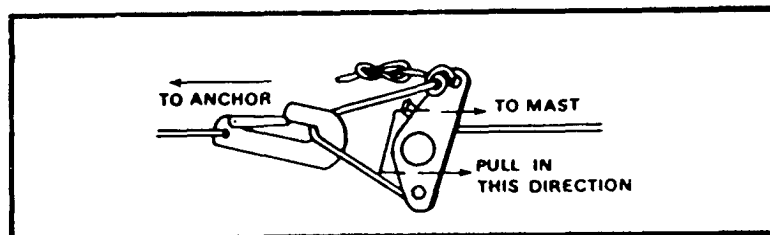
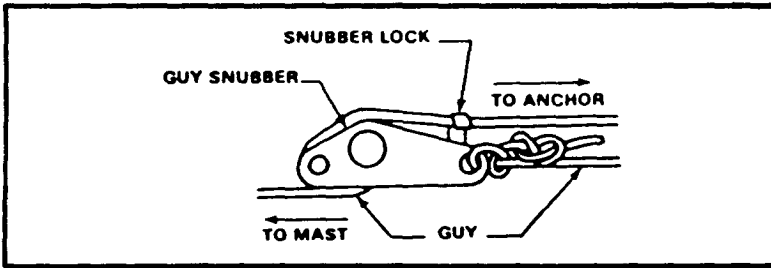

Figure 3-7. Pulling guy rope taut.
Figure 3-8. Securing guy with snubber lock.
- f. Pull the upper and lower guys on each side tight (Figure 3-7) and secure them (Figure 3-8). Make sure the mast assembly is not pulled out of line.